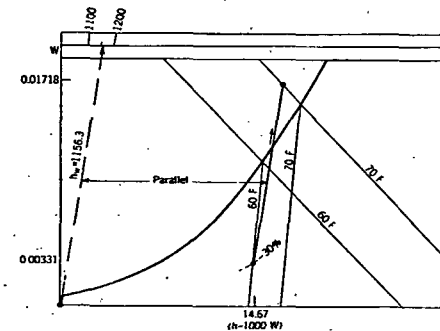

FIG. 7. DIAGRAM ILLUSTRATING EXAMPLE 18
**Example 18.** If dry saturated steam at 20 lb per square inch absolute is injected into air initially at 60 F and 30 per cent saturation to raise the temperature to 70 F, what is the final degree of saturation and how much water is added per pound dry air? (See Fig. 7.)